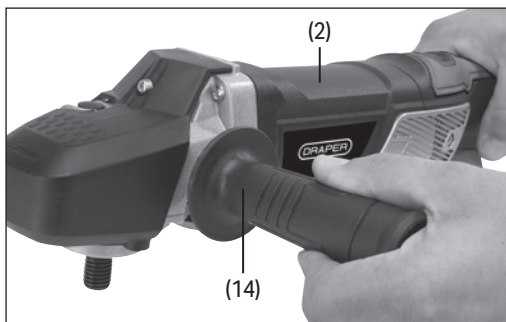

Fig.3
- Secure the handle into position using the two hex head bolts (13) supplied.
6.2 Fitting the Side Handle (Fig.3)